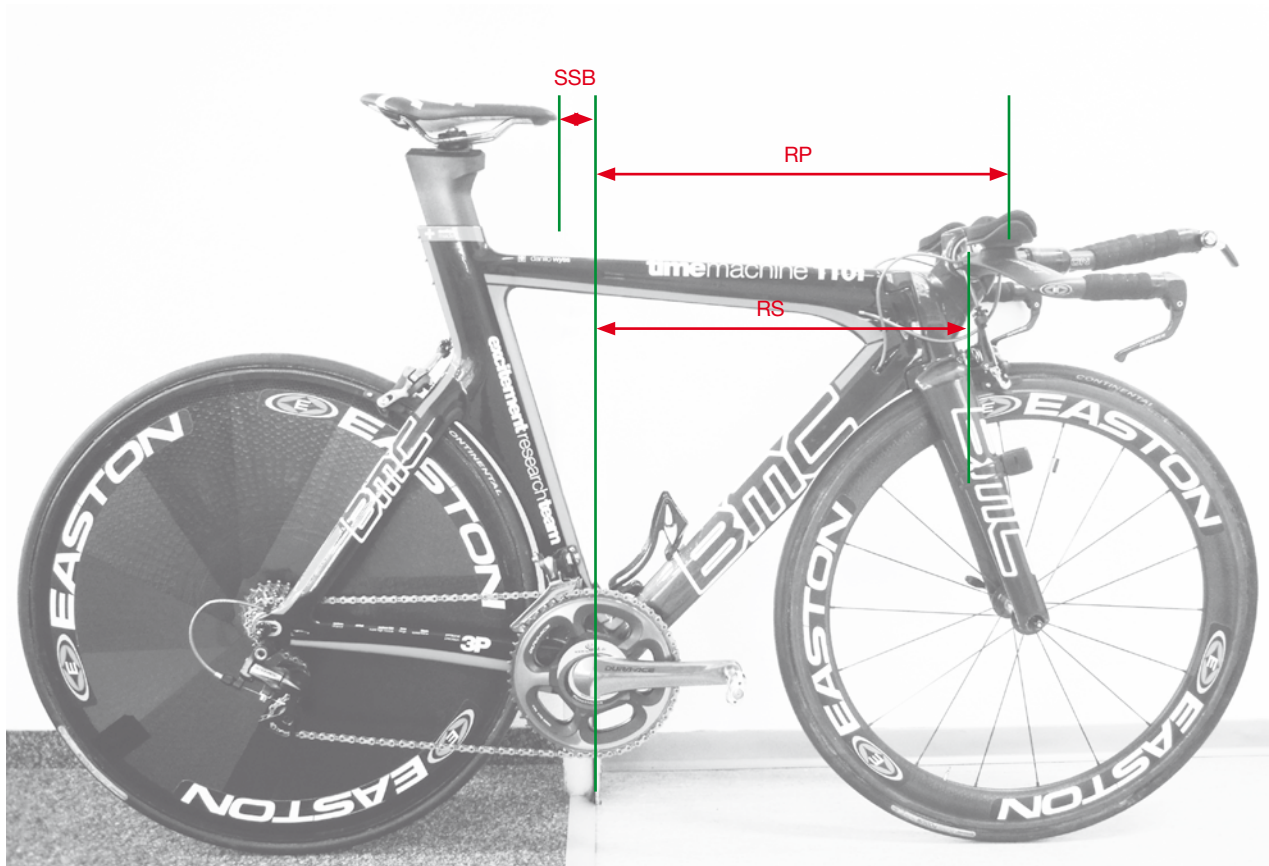

Figure 5
- Measure the vertical distance from the ground to the middle and upper surface of the bar pads (SP).
- Measure the vertical distance from the ground to the center of the handlebar clamp (SS).
- Measure the horizontal distance from the edge your bike is leaning against to the center of the pads (RP).
- Measure the horizontal distance from the edge to the center of the handlebar clamp (RS).
- Measure the horizontal distance from the edge to the tip of your saddle (SSB) (Figure 5).